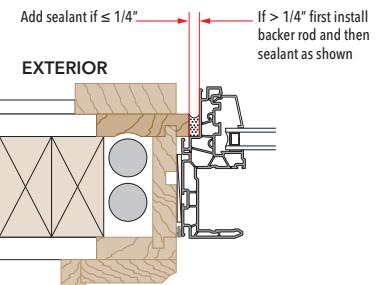

Figure 2
- C. Apply a continuous bead of sealant where the new frame contacts the exterior stop (Figure 1) or between the frame and the opening (Figures 2, 3 and 4). Continue the seal across the bottom of the sill adapter (if applicable). Do not block weep holes or weep hoods with sealant.